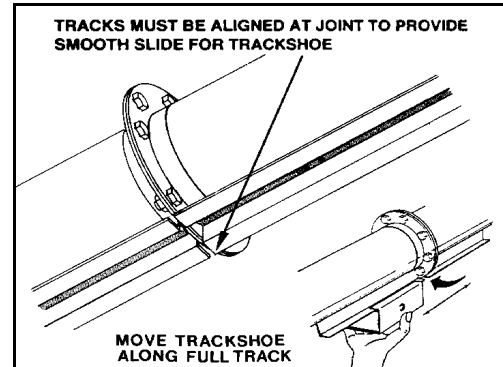

Figure 3.4 51' Lift Track Only
- ➔ 1. The **51' auger** has a 2-piece lift track. Make sure the upper and lower tube track sections butt together to form a smooth joint for the roller track shoe to roll across. Adjust if necessary (Figure 3.4).